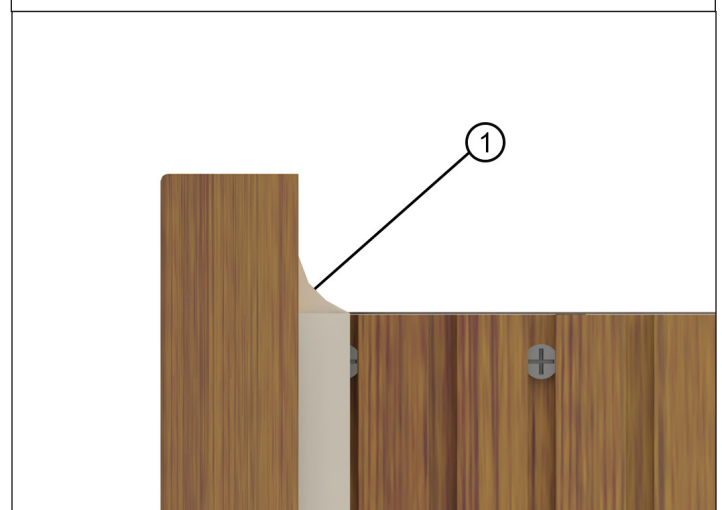

Figure 7
2. Tool out the sealant to ensure a proper seal. See figure 7.